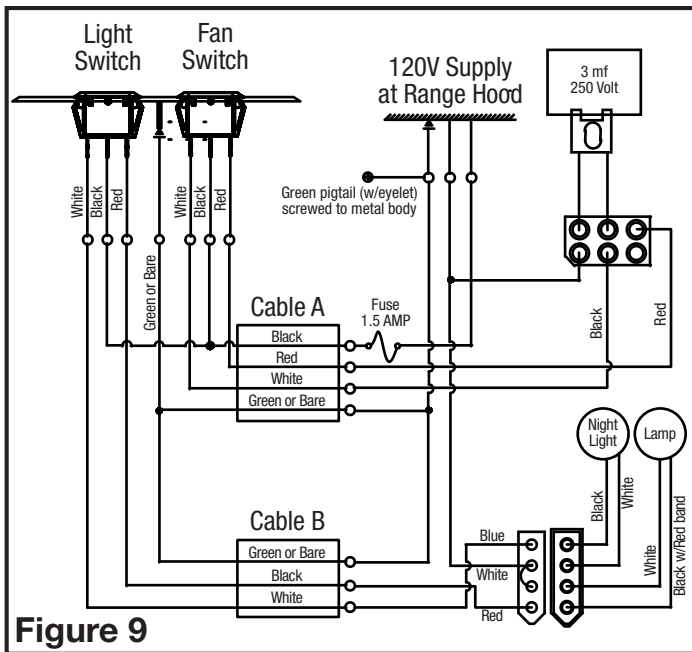

Figure 9
4. **Connections at the range hood (Figure 9):**
5. **Connections at the switch box (Figure 9):**